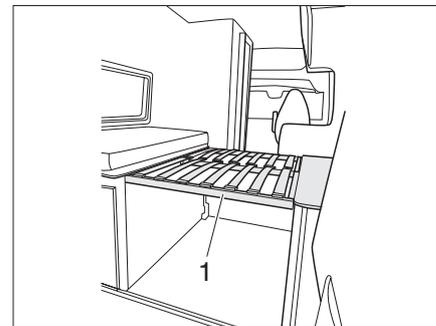

Fig. 56 Sleeping area in the rear
- ▶ Place the slatted frame (Fig. 56,1) on the supports.